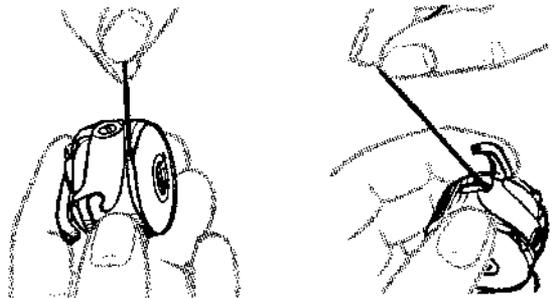

FIG. 21.
- Pull thread into slot as shown in left hand illustration, Fig. 21.
- Draw the thread down, under the tension spring, and to the left into the delivery eye at its end, as shown in right hand illustration, Fig. 21.